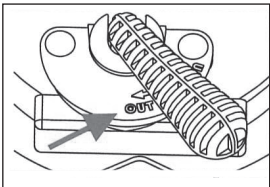

Figure 8
1. Turn the lever to the "OUT" position (Figure 8).